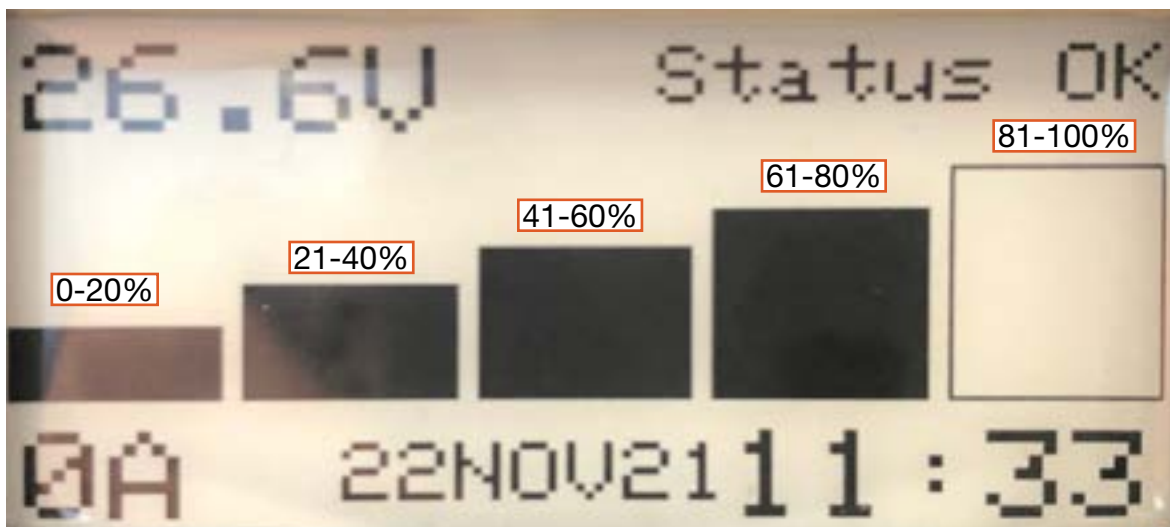
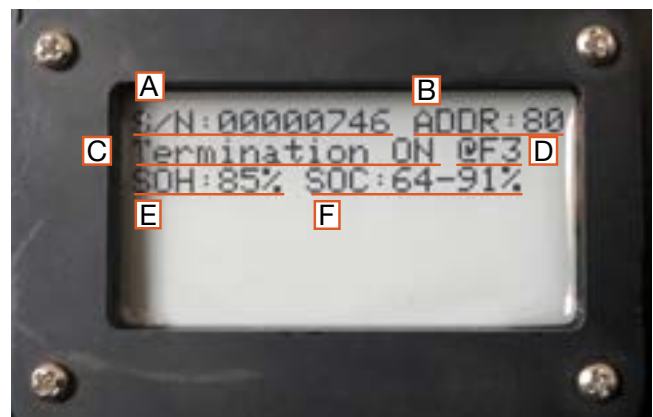

Figure 8. Battery Status Indicator SOC 5-segment report
Figure 18. Battery Status Indicator diagnostic screen
The BMS State of Charge (SOC) algorithm is based on a combination of open-circuit cell voltages, coulomb counting, and other cell-level telemetry. The algorithm computes and reports SOC for the entire battery on the Battery Status Indicator in five (5) segments or bars that fill / empty as the ESM charges / discharges respectively. The SOC reported in Figure 8 is somewhere between 61% and 80%. When the battery is charged to 81%, the fifth bar will fill completely. A numerical SOC report can be found on the diagnostic screen (see Figure 18 on page 24).
Figure 18 is an example of the information on the diagnostic screen that is present when the ESM 2000 is operating normally. The SOC value range will narrow as the battery cycles.